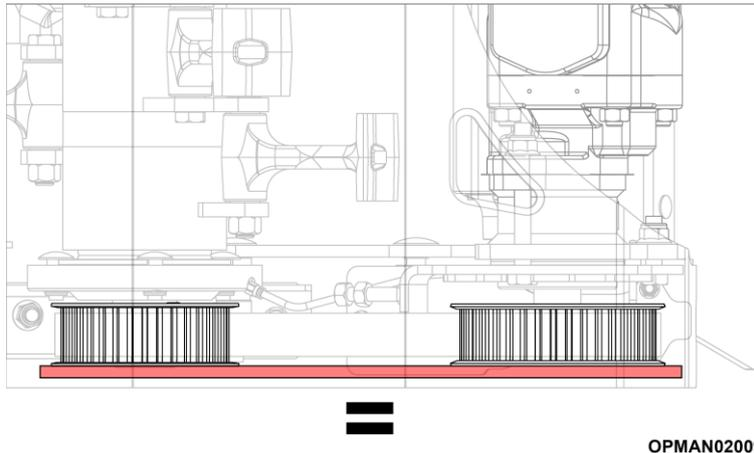

Figure 5.21
- 5.7.4.10 Check the alignment of the pulleys using a straight edge to ensure that the drivebelt is working parallel with the side of the attachment cowl; see Figure 5.21.